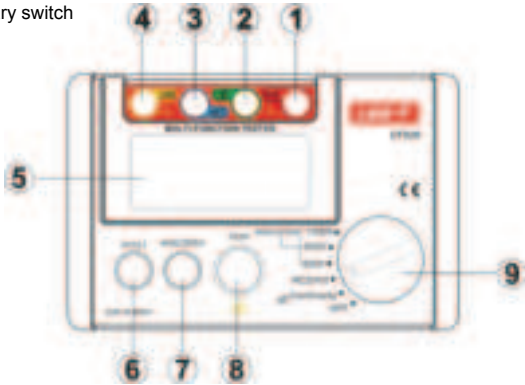

Figure 1
V. Tester Description (Front View, See Figure 1)